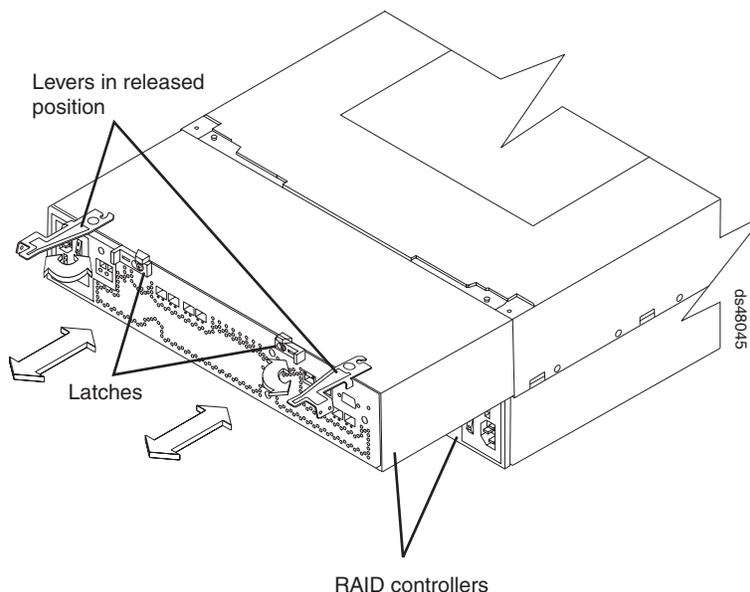

Figure 77. Removing a controller from the DS4800
10. Release the controller levers and remove the failed controller. Figure 77 shows the controller sliding from the storage subsystem chassis.